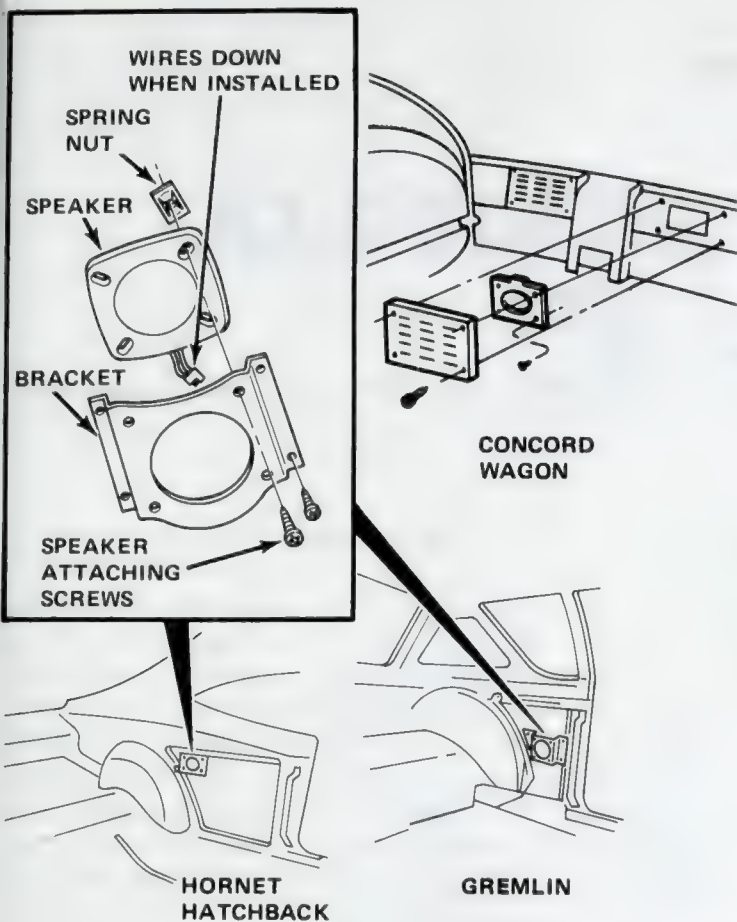

Fig. 3V-19 Rear Speaker Installation—Gremlin-Concord-AMX
- (1) Remove trim panel for access to speaker (fig. 3V-19).
- (2) Remove speaker and bracket assembly.
- (3) Disconnect speaker harness.
- (4) Remove speaker from bracket.